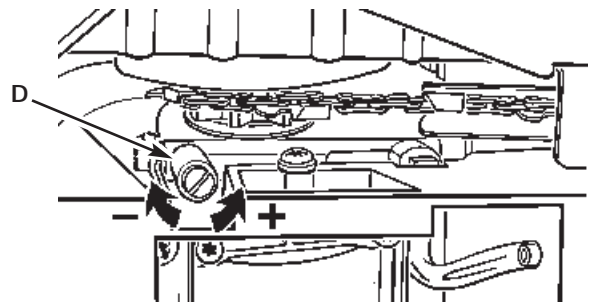

Fig. 11
Your chain saw is equipped with an automatic gear driven oiler system. The oiler automatically delivers the proper amount of oil to the bar and chain. As the engine speed increases, so does the oil flow to the bar pad. The amount of oil flowing to the bar and chain may be changed by turning the adjustment screw (D) as shown in Fig. 11. Turn the screw clockwise to DECREASE oil flow and counterclockwise to INCREASE the flow.